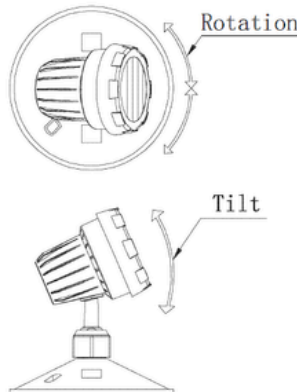

Fig. 2
- (1): Make wires connections. Observe polarity (if required); connect the lamp to the DC supply wires; positive and negative are identify with labels on each wire (when indicated).
- (2): Install the canopy to the Junction Box with the Mounting Screws (not included).
- (3): Install the lamp(s) gently to avoid breaking the pins.
- (4): Apply power.
5.2.2, HEADS ADJUSTMENT(Fig.2)